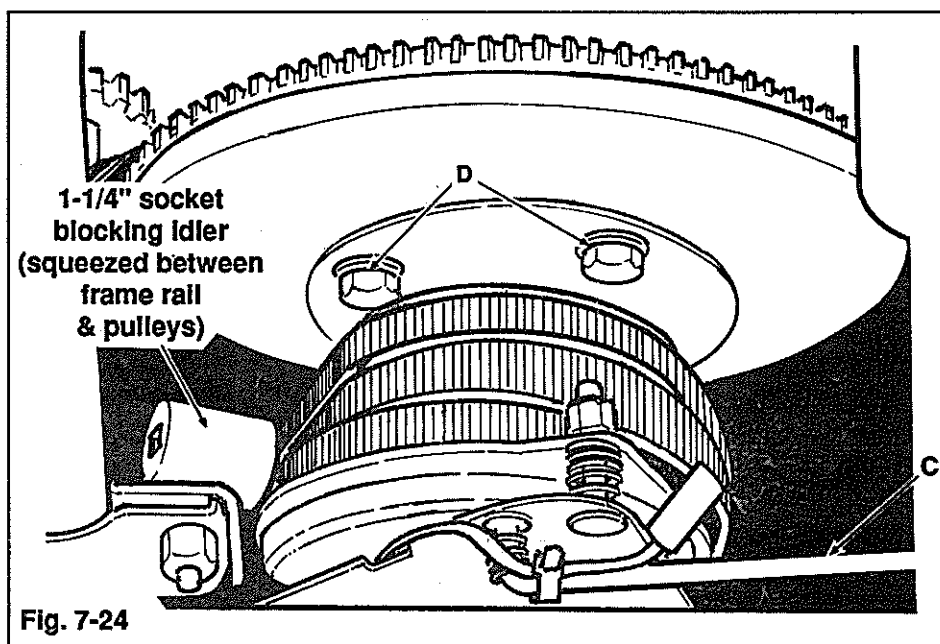

Fig. 7-24
7. Remove clutch anchor rod (C, Fig. 7-24) and unplug clutch lead. Remove the four (4) metric capscrews (D) retaining the electric clutch to the flywheel. Hold the flywheel with a bar while loosening the capscrews with a 17mm open-end wrench.